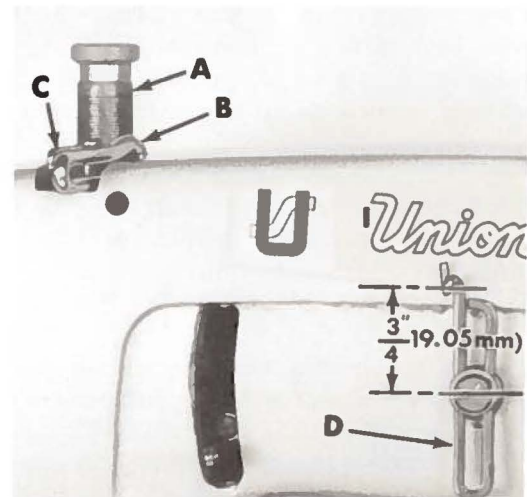

Fig. 16
Regulate the presser spring regulating screw (A, Fig. 16) so that it exerts only enough pressure on the presser foot to feed the work uniformly when a slight tension is placed on the fabric. This is the knurled screw, located directly behind the needle bar in the head of the machine. Turning it clockwise increases the pressure, counterclockwise acts the reverse.
(19.05 mm) above the attaching screw (Fig. 16).
Set the needle thread take-up wire (B, Fig. 16), located adjacent to the needle bar thread eyelet (C), so that its upper surface is even with the top of the holes in the needle bar thread eyelet when the needle bar has completed its downward stroke. Lower this setting for a smaller needle thread loop, and raise it for a larger loop. Set the needle thread frame eyelet (D) so that the eyelet hole is 3/4 inch